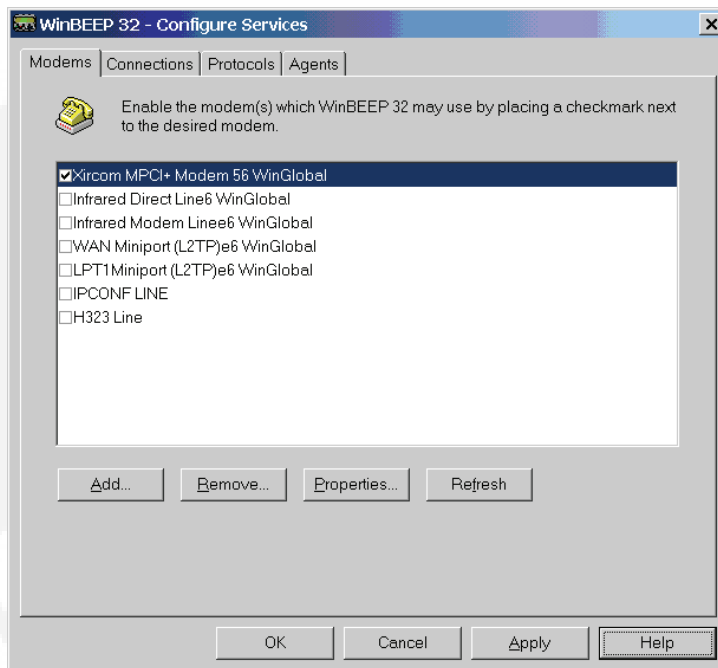

FIGURE 15-4. SERVICES – MODEM
2. In the **Configure Services** window (Figure 15-4), click on the **Modems** tab.
checkbox next to it (Figure 15-4). When it is selected, a check will appear in the box.